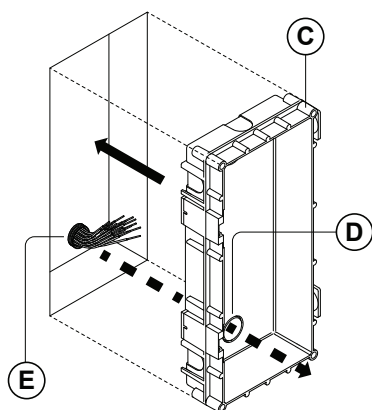

Fig. 62
3. Set the flush box (C) into the hole in the wall feeding the connecting cables (E) through the appropriate flush box opening (D), as shown in **Fig.62**;